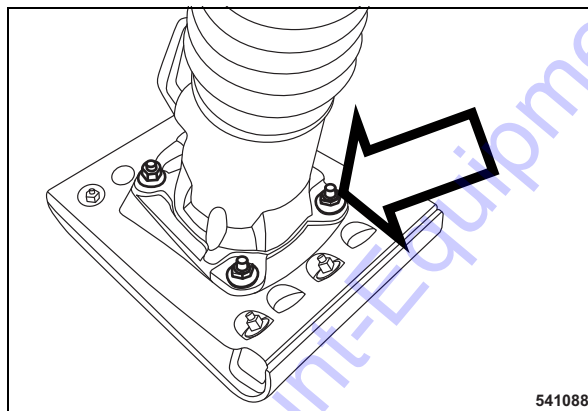

Fig. 29
- Unscrew 4 fastening screws (Fig. 29).